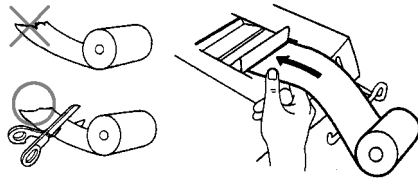

Fig.1
1. Insert the leading edge of the paper roll into the opening. (Fig.1)